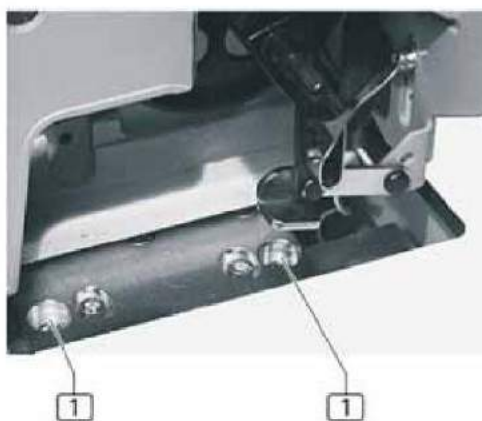

fig. 14
- 1 **fig. 14:** Remove both fastening screws **1** of the sewing head on the machine frame and Allan screw **3** on the height adjustment unit.